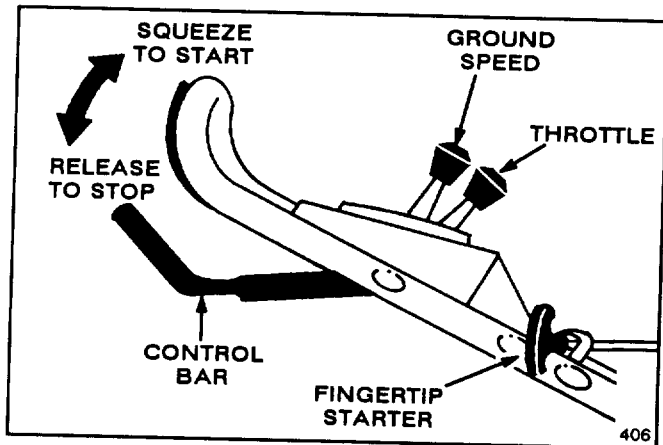

Figure 5
1. CONTROLS—Throttle, ground speed control, control bar, and fingertip starter are on upper handle (Fig. 5).
3. STARTING—Move ground speed control to "N" and throttle to CHOKE. Lift control bar to handle (Fig. 5) and hold. Pull fingertip starter out until positive engagement results; then pull vigorously to start the engine. When engine starts, remove throttle from CHOKE and regulate as desired.
4. GROUND SPEED (Fig. 5)—Move ground speed control to desired setting. Number "1" is slow, "2" is medium, and "3" is a fast walking pace. Move ground speed control to "N" when using the mower for trimming and whenever leaving mower.